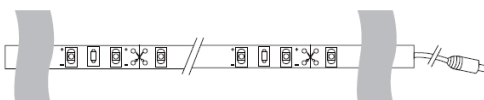

Fig.2
3. Secure the LED ribbon by using double sided tape or ribbon plastic anchorages. Fig. 2